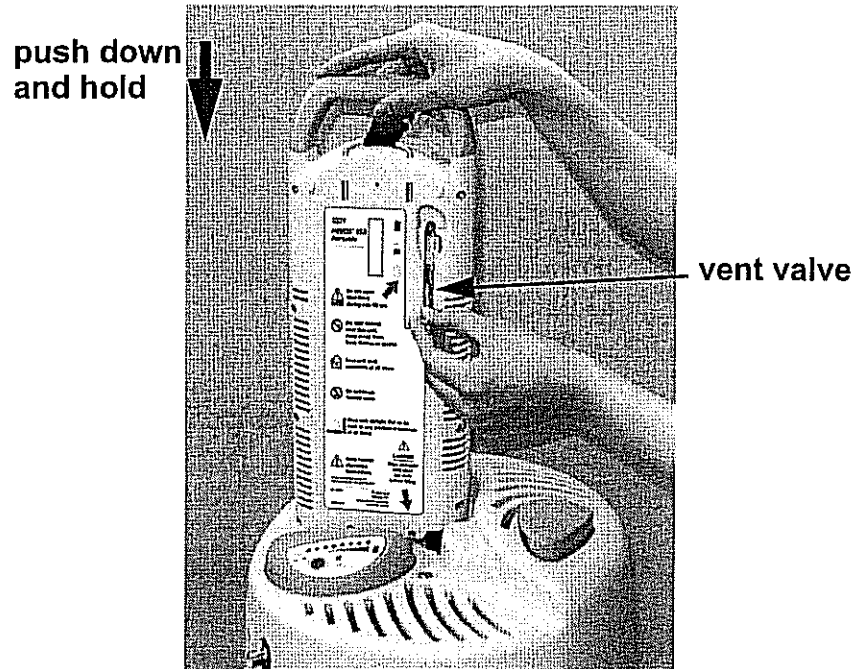

Figure 2: Filling the H850 Portable
5. Place one or both hands on top of the H850 Portable and press straight down directly over the fill connector, being careful not to depress the release button on the Reservoir when engaging (Figure 2). This will lower the H850 Portable approximately 3/8 inch (10 mm). Continue to apply downward force to ensure the fill connectors remain engaged.
6. While holding the H850 Portable in the fill position, Figure 2, pull down and hold the vent valve lever in the open position (90° from the normal OFF position). A hissing noise should be noticeable. During filling, maintain a slight downward force on the H850 Portable with one hand to keep the H850 Portable steady, and maintain proper filling position. Do not allow the Portable to move upward until fill is complete.